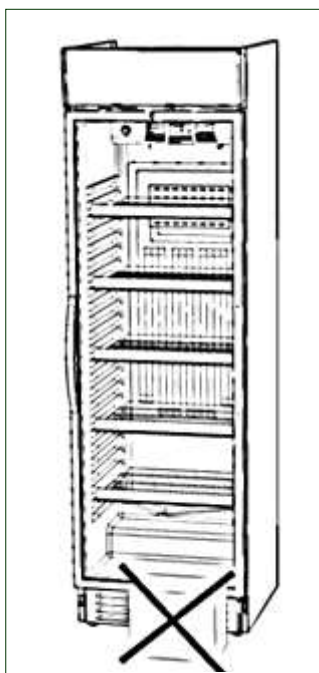

Fig. 3
- Keep the air intake and outlet area around the plinth area of the cabinet clear of cartons and other obstacles (fig. 3).